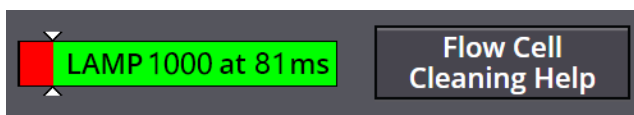

Figure 5-2 Raw lamp energy gauge
- Frequent messages recommending flow cell cleaning (Figure 5-2).
Selecting **TOOLS > MANUAL CONTROL** opens the **MANUAL CONTROL** window on which the raw lamp energy gauge is displayed. The gauge has two ranges: red and green (Figure 5-2).
When the lamp energy is lower than normal (Figure 5-2), the system will recommend flow cell cleaning before starting a separation run.